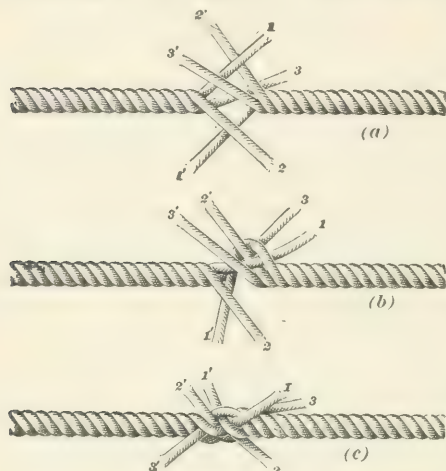

FIG. 1.
22. Splicing a Sling.—To make a short splice in a sling, untwist the strands for some distance from each end of the rope. Take an end in each hand and lay the strands within one another, as shown in Fig. 1 (*a*). The strands 1', 2', and 3' may be tied to the left-hand end for convenience in handling. Now take the strand 1, pass it over strand 2' and under strand 1', as shown in Fig. 1 (*b*); then, draw it
tight. Next, take strand 2, pass it over 3' and under 2', drawing it up tightly. Now take strand 3, pass it over 1' and under 3'; then draw it up. The splice will now appear as shown in Fig. 1 (c). Weave the strands 1', 2', and 3' into the left-hand rope in the same manner. Continue weaving the right-hand and left-hand strands alternately until the length of the splice is about 6 times the diameter of the rope. Draw the strands tight and subject the splice to a strain. Then cut off the projecting ends of the strands.